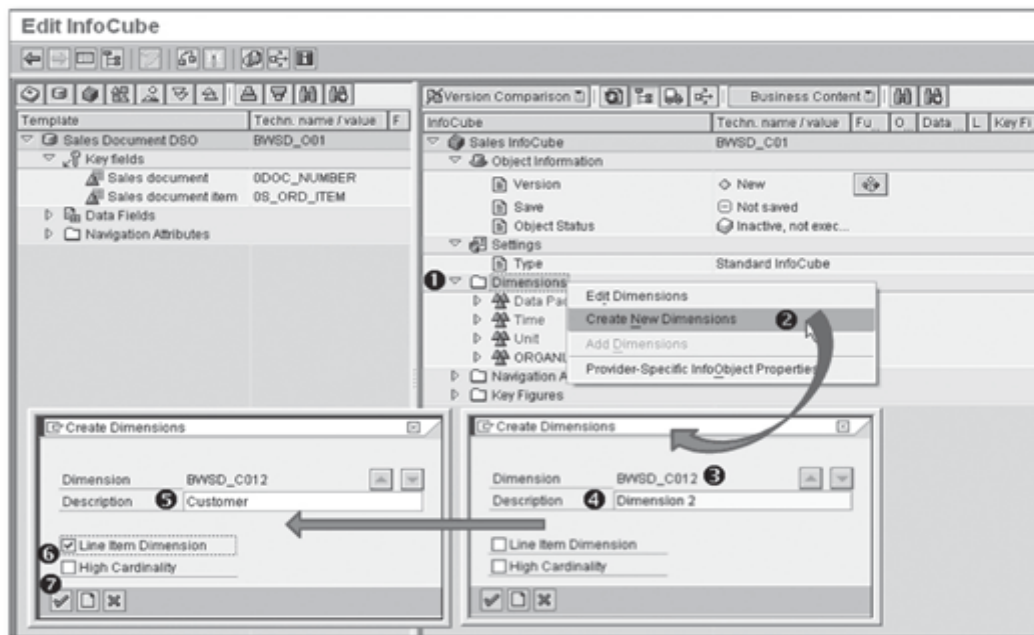

Figure 5.14 Adding New Dimensions
In this section, we explain the process of adding new customer-defined dimensions to the InfoCube. To add a new dimension, call the context menu for the Dimensions folder (❶ of Figure 5.14), and select the CREATE NEW DIMENSIONS option from the context menu (❷).
This action displays the Create Dimensions screen, which lists a system-generated technical name for the new dimension (❸). By default, the description is listed as "Dimension 2," as shown in ❹ of Figure 5.14.